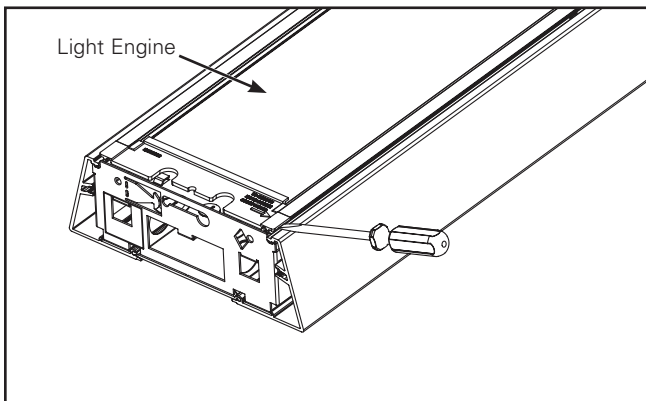

Figure 1.
1. The LED Light Engine(s) must be removed prior to installation. Use flat head screw driver if necessary on both ends. (Figure 1.)